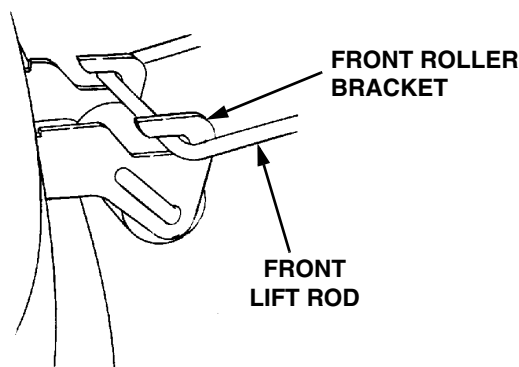

Figure 31
7. While holding the front lift rod up, slide the mower deck forward until the rod aligns with both front roller bracket slots. Lower the lift rod into the front roller bracket slots and slide the deck rearward to engage the lift rod fully forward in the slots of the deck front roller bracket (See Figure 31).